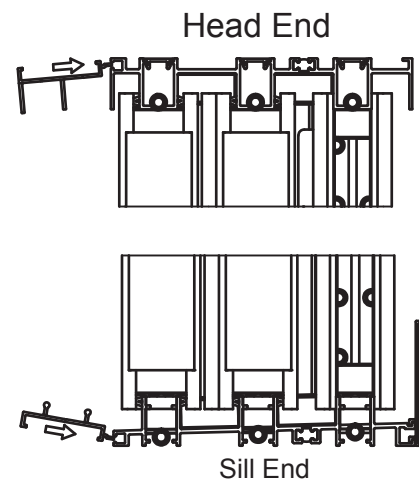

Figure 15.
**Step 3. (Screen Track Installation)** Insert the tongue of the screen sill track into the frame sill accessory groove and rotate downward until the screen track makes contact with the foundation. Repeat this procedure at the head before proceeding (See Figure 15).